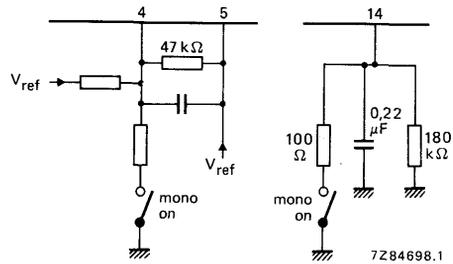

Fig. 3 (a) At pin 4;  $-V_{4.5} > 300$  mV;
4. External mono 'ON' switch; see Fig. 3.